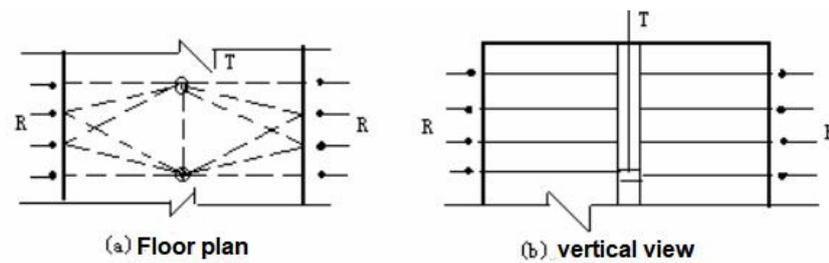

Figure 1.3 Schematic diagram of the drilling method
(3) When the distance measurement is large, drilling or pre-buried tube measurement can be used. As shown in Figure 1.3, in the positioning of the pre-buried acoustic tube or drill vertical test hole, the diameter of the pre-buried tube or the diameter of the bore should be 5 ~ 10mm larger than the diameter of the transducer. The distance between the buried tube or the hole should be 2 ~ 3m, its depth can be determined according to the test needs. Two radial vibrating transducers can be placed in the two measuring holes for testing, or a radial vibrating type and a thickness vibrating transducer can be placed in the measuring